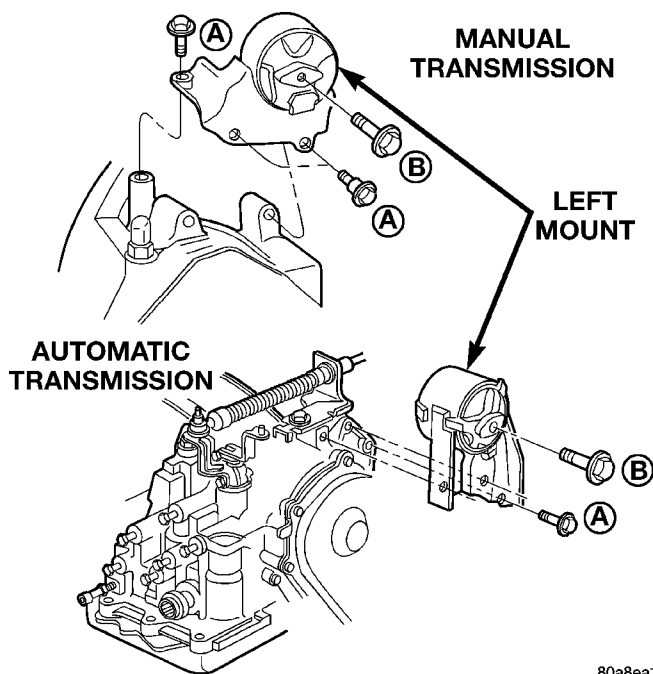

Fig. 15 Engine Mounting—Left
(1) Raise vehicle on hoist and remove left front wheel.
(2) Remove the Power Distribution Center (PDC) on manual transaxle model, from battery tray mount and lay aside.
(3) Support the transmission with a transmission jack.
(4) Remove the thru-bolt access hole cover. Remove the insulator thru-bolt from the mount (Fig. 15).
(5) Remove the transmission mount fasteners and remove mount.
(6) Reverse removal procedure for installation. Tighten fasteners in this order (Fig. 15):